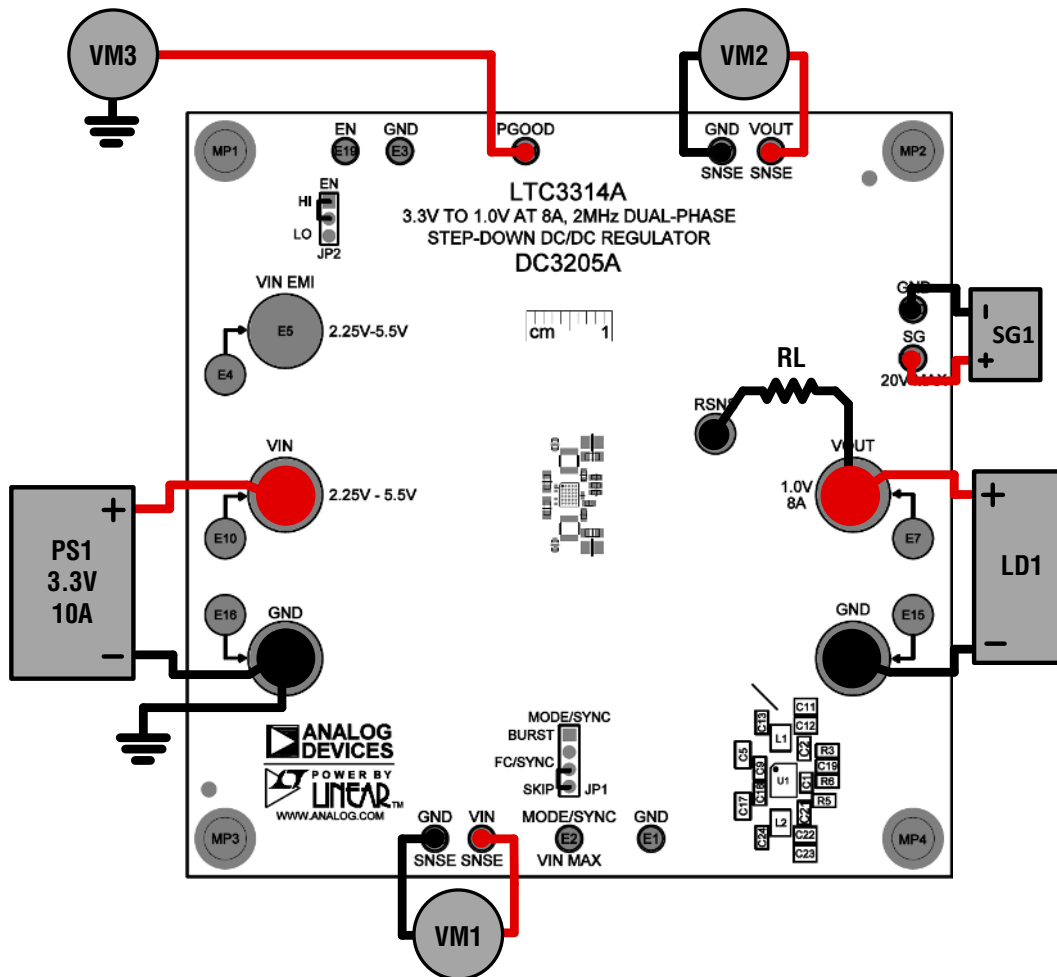

Figure 2. Test Setup for DC3205A Demo Board
Refer to Figure 2 for the proper measurement equipment setup and follow the procedure below:
1. Connect PS1, LD1, VM1, VM2 and VM3 as shown in Figure 2. If the input EMI filter is desired, connect the input power supply to VIN EMI and GND.
8. To test the transient response with a base load, add the desired resistor to produce a minimum load between VOUT and RSNS turrets (R_L shown on Figure 2). Note that the total load resistance will be R_L plus R_{11} ($20m\Omega$). Adjust a signal generator with a 10ms period, 10% duty cycle and an amplitude from 1V to 2V to start.